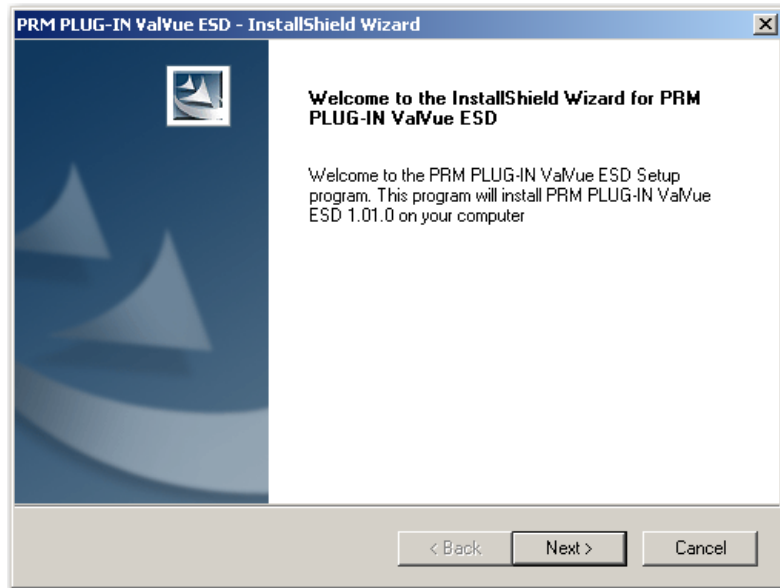

Figure 22 Install Shield PRM Plug-In
4. Click **Install Plug-in Client** and a screen appears (Figure 22).